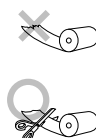

Fig. 1
- Insert the leading edge of the paper roll into the opening. (Fig. 1)